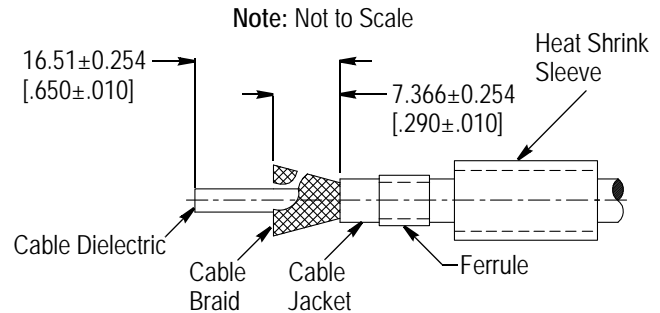

Figure 3
2. Strip the cable jacket to the dimension given in Figure 3 to expose the cable braid.
3. Trim the cable braid to the length given in Figure 3. Flare the braid.